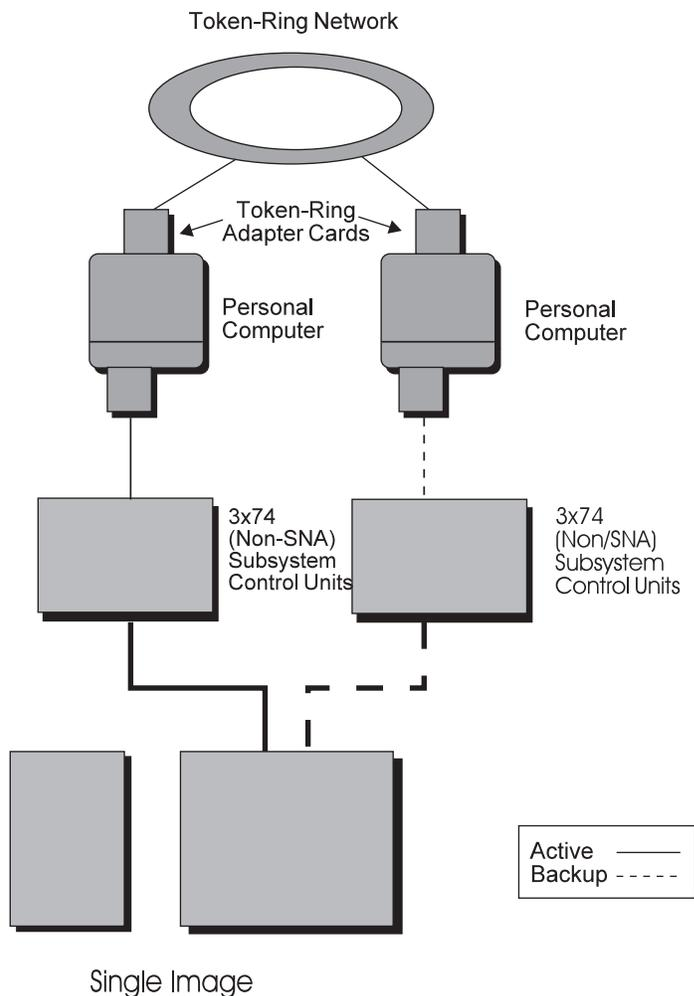

Figure 31. Single-Image Operator Console Connections with Backup
**Single-Image Processor Operator Console Connection with Backup:** Figure 31 on page 82 shows the operator console connections to a single-image processor.